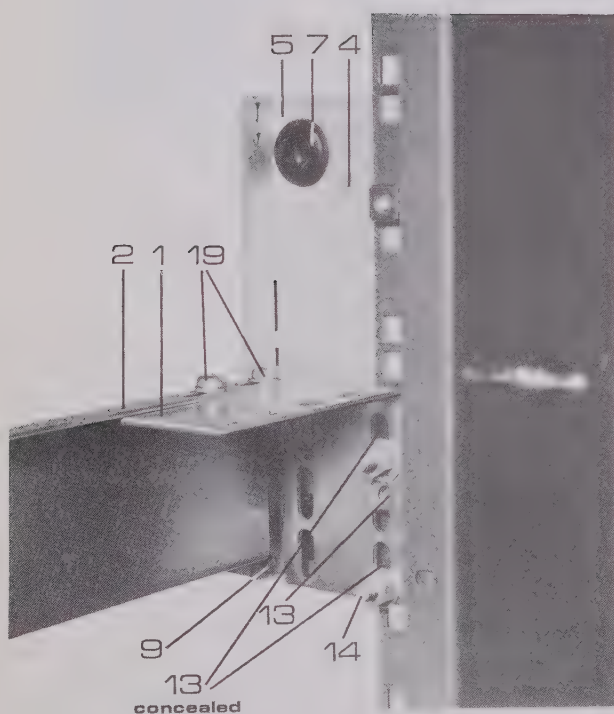

Fig.7.4 Rackmount Assembly - Detail Rear View
1. Referring to fig. 7.4, fit cage nuts (item 13) to the front of the rack at the positions indicated.
2. Fit the special small-head screws to the cage nuts identified as “13 concealed” on fig.7.4. When screwed home, the special screw will spread the ears of the cage nut, thus securing it.